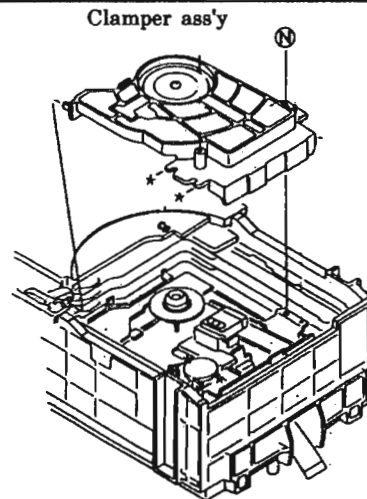

Fig.21
5. Remove a screw ⑤ securing center of the clamber ass'y. (See Fig. 21)